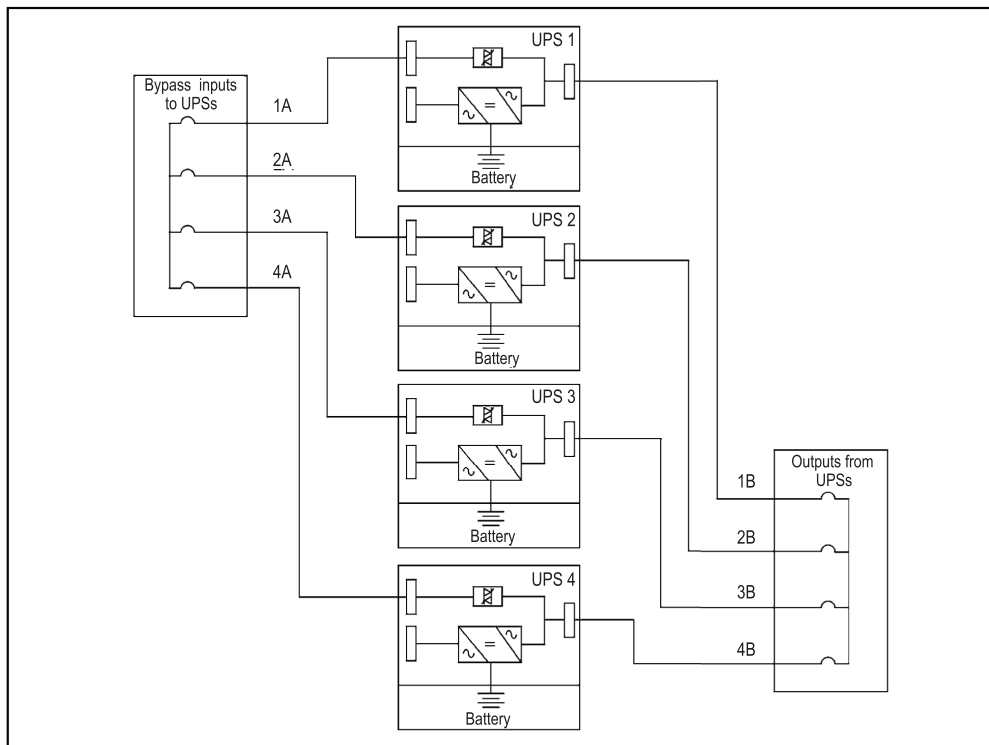

Figure 4-13: Parallel UPS system connections
2. For installing parallel system, see *Figure 4-13: Parallel UPS system connections* on page 41.